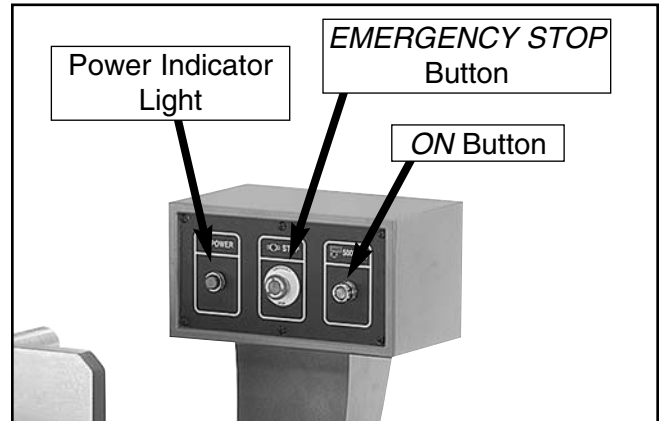

Figure 25. Pedestal switch.
3. Push the *ON* button shown in **Figure 25**. Note—*Make sure the cutterhead moves in a clockwise direction as viewed with the infeed table to the left. If the cutterhead moves in a counter-clockwise direction, then the power needs to be disconnected and any two power wires need to be switched at the circuit breaker in the electrical box.*